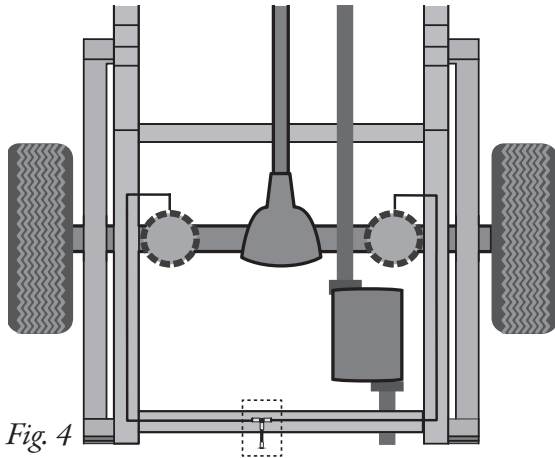
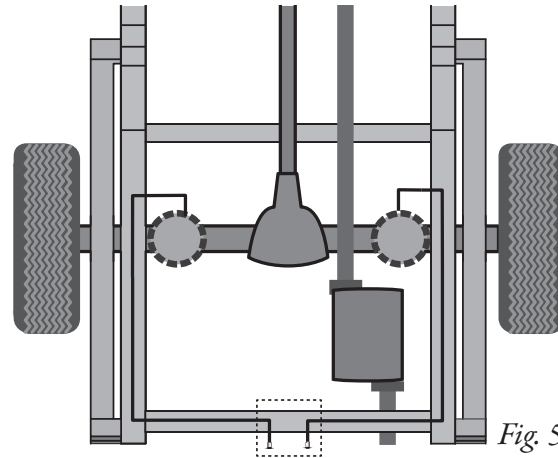

Fig. 4
Fig. 5
1. A single-path air line installation is recommended for vehicles that typically have even weight distribution (Fig. 4). If weight in the vehicle varies from side to side and unequal pressures are needed to level the load, use a dual-path installation. For dual-path air line installations, eliminate the tee fitting (L) and route separate air lines for both air springs (Fig. 5).